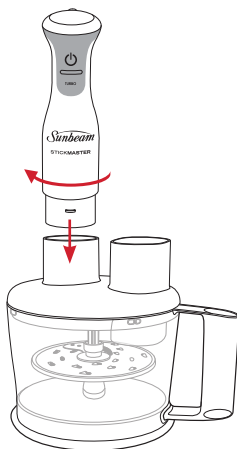

Figure 5
5. Insert the motor housing into the processing bowl lid and twist the wand in a clockwise position until you hear a click. See Figure 5.